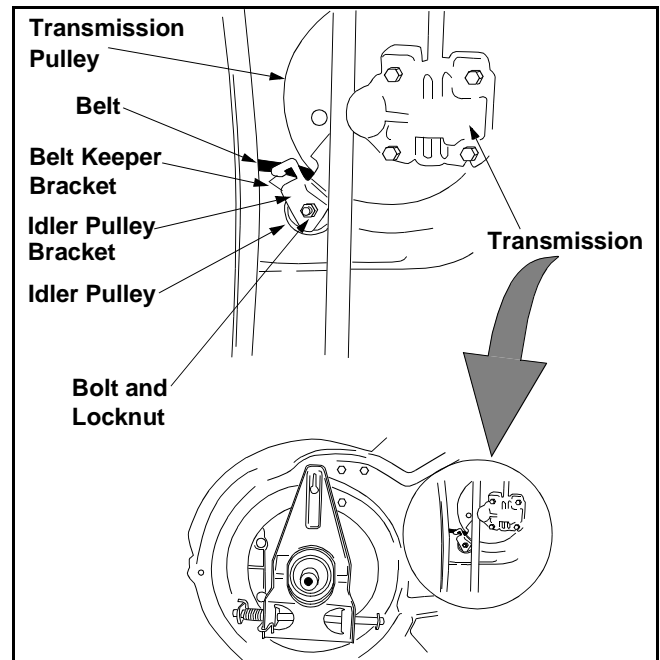

Figure 19
- Tilt the transmission forward and loosen the idler pulley bolt and lock nut half a turn. See Figure 19.
- Using pliers, rotate the belt keeper bracket so that it snaps into slot on the idler bracket. Refer to Figure 19.